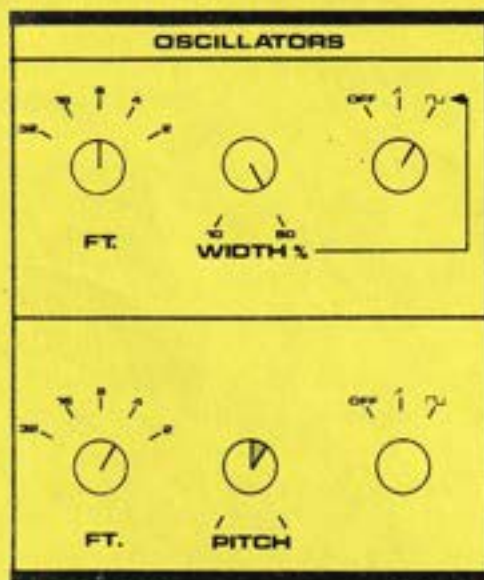

Fig. 5
In the case of the above example, however, since the PITCH control cannot turn up a complete fifth, it is necessary to turn the FT control (5) up an octave on Oscillator 2 and to turn the PITCH control down a fourth, leaving a PITCH setting similar to that shown in Figure 5.